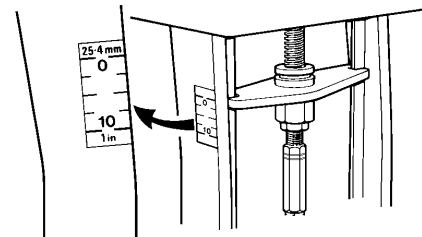

Fig.6
12. Whilst checking the actuator travel over full valve stroke, run the actuator to its fully retracted position. Select a self-adhesive scale to match valve stroke (from the packet attached to the inside of the terminal cover). Fix scale to the outside edge of the actuator mounting bracket so that the top edge of the anti-rotation plate lines up with position '0' on the scale (Fig.6).